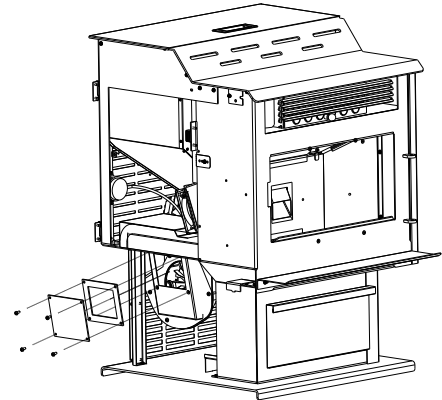

Figure 25
- **Blower cleaning** – Over a period of time, ashes or dust may collect on the blades of both the combustion/exhaust blower and convection blower. Periodically, the blowers should be cleaned as the ash and dust can impede performance. The combustion/exhaust blower can be accessed by opening the left, right, and back panels (Figure 25). To clean the blades in the combustion blower housing, insert the vacuum tip through the air inlet damper opening located on the side of the combustion blower housing. Clean thoroughly. To clean the blades in the exhaust blower housing, use a screw driver to remove the cleaning access panel located on the side of the metal box covering the housing. Insert the vacuum tip through the cleaning outlet and clean the blades thoroughly.